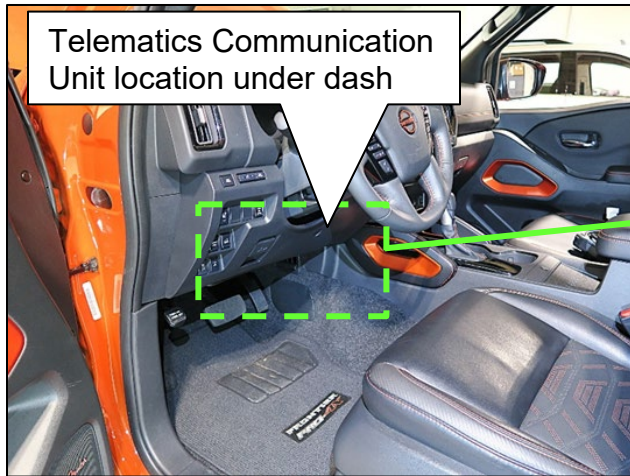
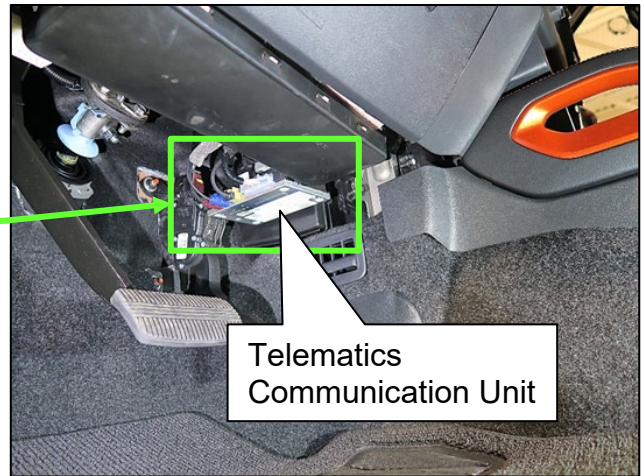

Figure 4
Figure 5
6. Locate the Telematics Communication Unit (TCU) installed on the steering member under the dash (Figure 4 and Figure 5).